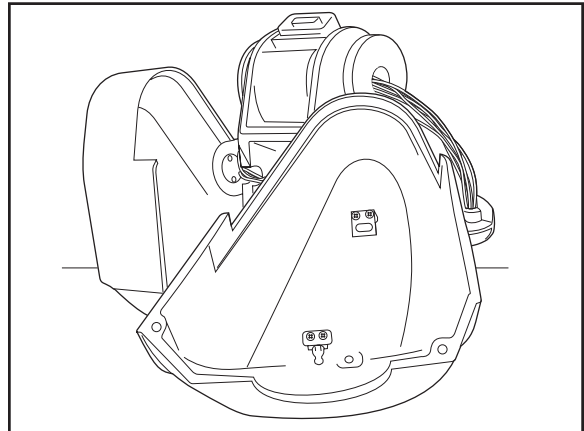

Figure 4. Hooking Cover Halves
- d. Set the covers down or hang them by the eyelets inside the covers (refer to Figure 4). The wire and hook on which to hang the covers is not provided.